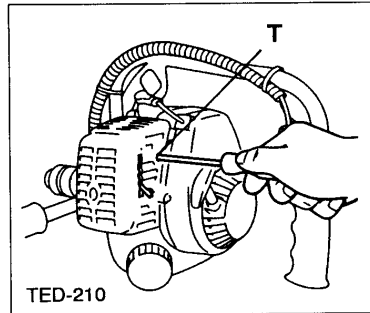

Fig. 3-1
**Carburetor adjustment (Fig. 3-1, 1 B)**